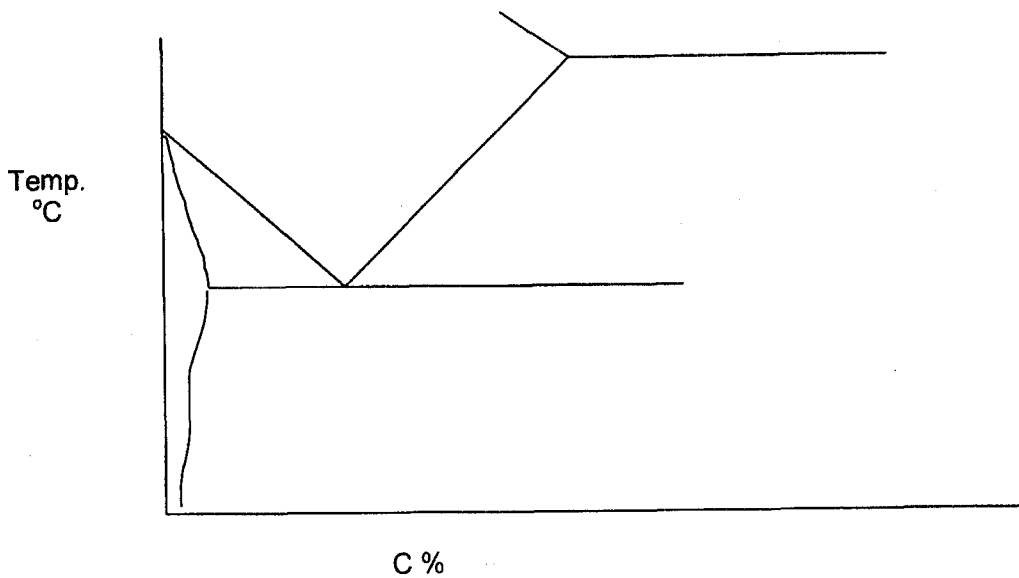

Figure 1
2. On the Fe-C phase diagram bellow (figure1) locates and explains the following heat treatment processes :